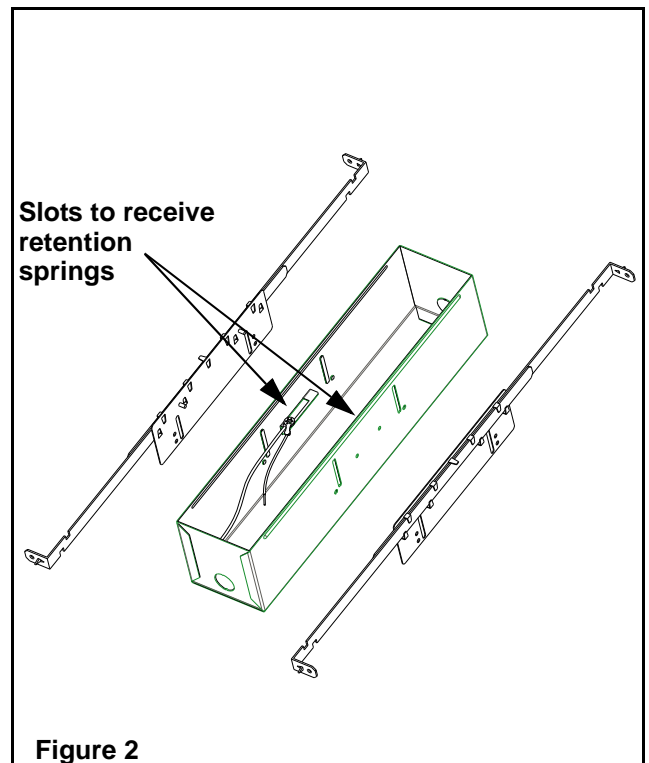
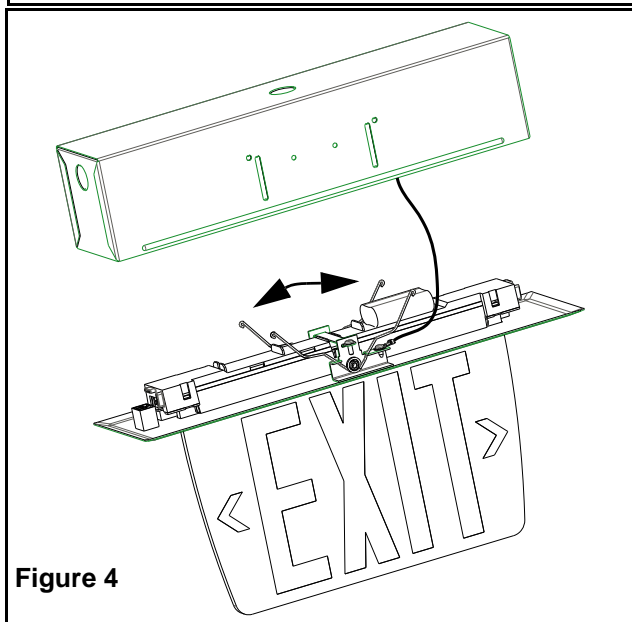

Figure 2
Figure 4
2. Assemble the bar hangers (3) to the adjustment brackets (2) and the adjustment brackets to the back box (see figure 2). Install the bar hangers in the adjustment brackets. Mount the back box so that it is flush with the ceiling surface.
7. Compress the retention springs (see figures 4) and pass them through the slots on the back box (1) (see figure 2) and Push the trim plate assembly into the back box. Align to be flush with the back box or the ceiling.